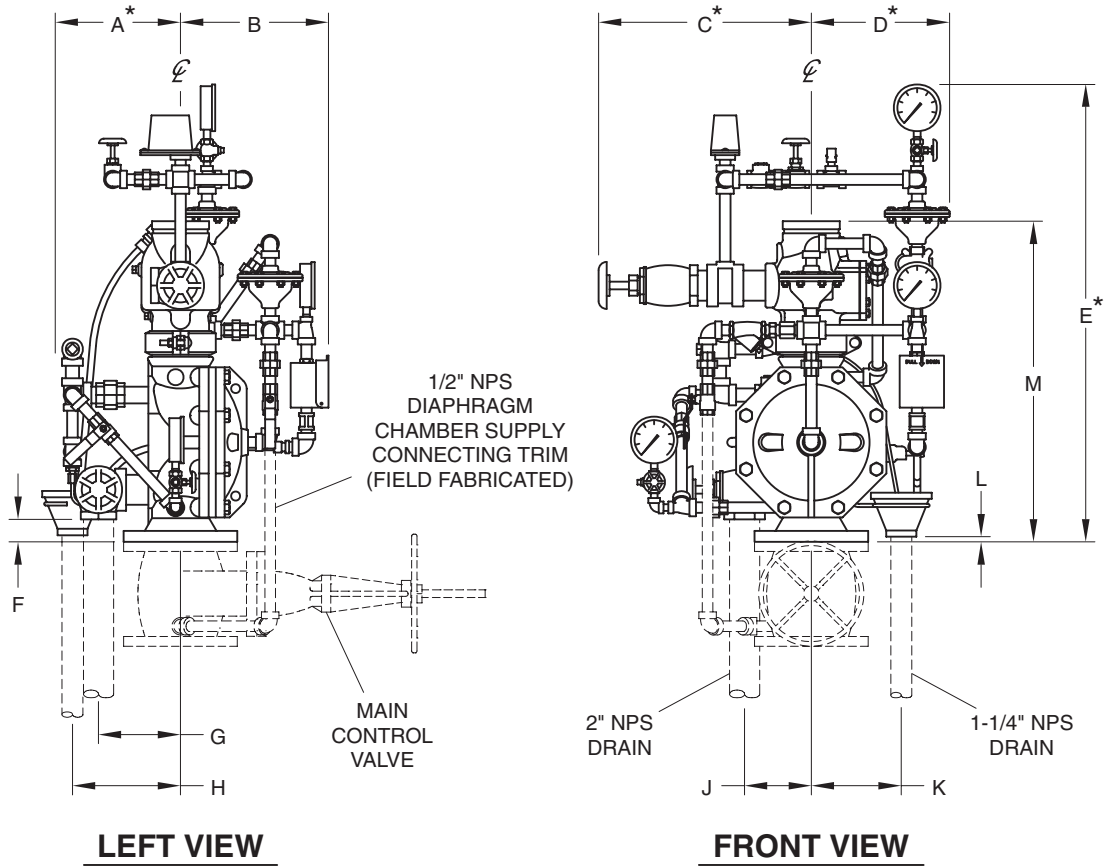

FIGURE 3
The Double Interlock Preaction System With Electric/Pneumatic Actuation Trim provides for electric operation of the DV-5 Valve by a detection system consisting of electrical devices such as heat sensitive thermostats, smoke detectors, and/or electric manual pull stations. Information on the various types of separately ordered Solenoid Valves that may be used with this trim package is given in Technical Data Sheet TFP2180. Nominal installation dimensions for the Double Interlock Preaction System With Electric/Pneumatic Actuation Trim are shown in Figure 3.
Step 7. Connect the Diaphragm Chamber Supply Control Valve to the inlet side of the system's main control valve in order to facilitate setting of the DV-5 Valve (Fig. 3).